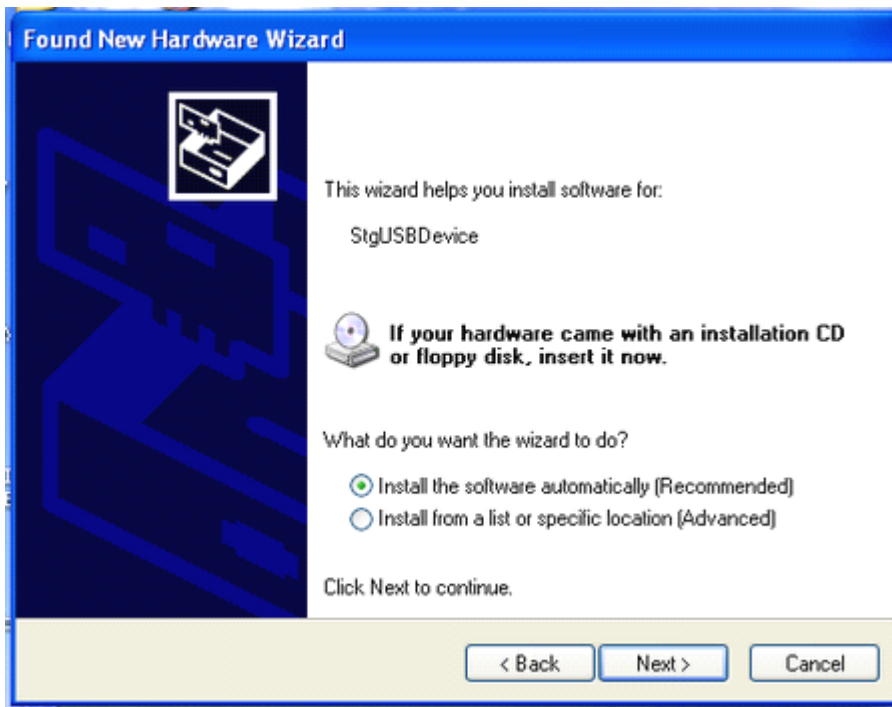

Figure 12: VSpeed setup Found New Hardware Wizard
(9) You can select “Install the software automatically” when Figure 12 window appeared